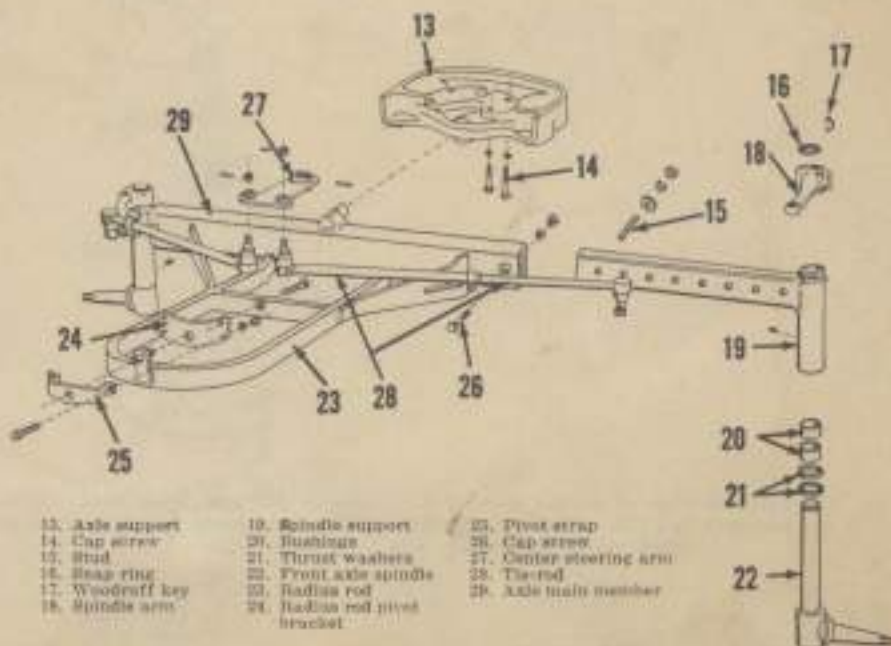

Fig. 5—Exploded view of typical adjustable axle and associated parts. Radius rod (23) is welded to axle main member (29).
**8. REMOVE AND REINSTALL.** Support tractor, and disconnect tie rods from center steering arm (27—Fig. 5). Detach radius rod pivot bracket (24) from torque tube and lower rear of radius rod. NOTE: Some rear pivots may be different from type shown in Fig. 5. Move front axle assembly rearward and roll axle assembly away from tractor. Axle sup-
9. The procedure for removing the spindles is evident after an examination of the unit and reference to Fig. 5. Bushings (20) should be installed flush with spindle support (19). These bushings are pre-sized and if carefully installed will need no reaming. Tie-rod length should be varied to provide a toe-in of 1/16-1/8 inch.